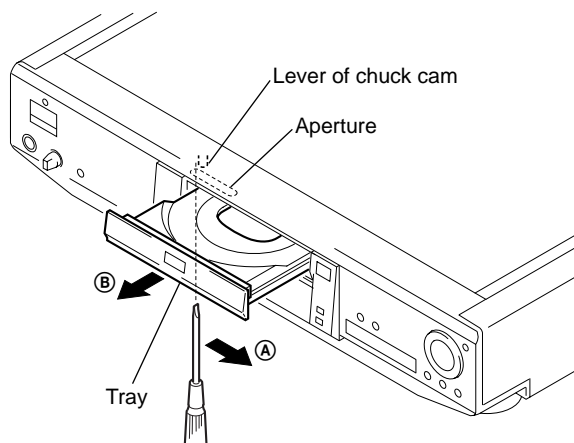

Fig. 2
- 1) Insert a tapering driver into the aperture of the unit bottom, and move the lever of chuck cam in the direction of the arrow (A). (See Fig. 2)
- 2) Draw out the tray in the direction of the arrow (B), and remove a disc. (See Fig. 2)